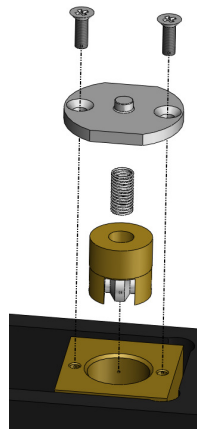

Figure 13
2. Remove all internal block components shown in Figure 13.